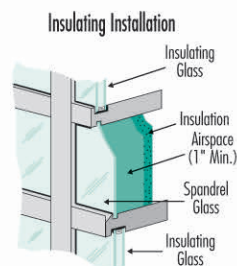

Figure 13
- Viracon does not recommend or warrant applications in which insulation is applied directly to the opacifier film. The area behind the panel must be vented to prevent condensation from forming on cold interior surfaces. Insulation should be installed with a 1" air space between the glass and insulation (see Figure 13). Contact our Inside Sales Department for copies of our product warranties.